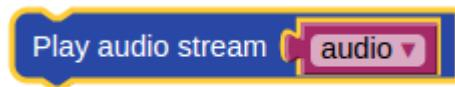

Figure 151: Play audio Block
*Play audio stream* (Figure 151):